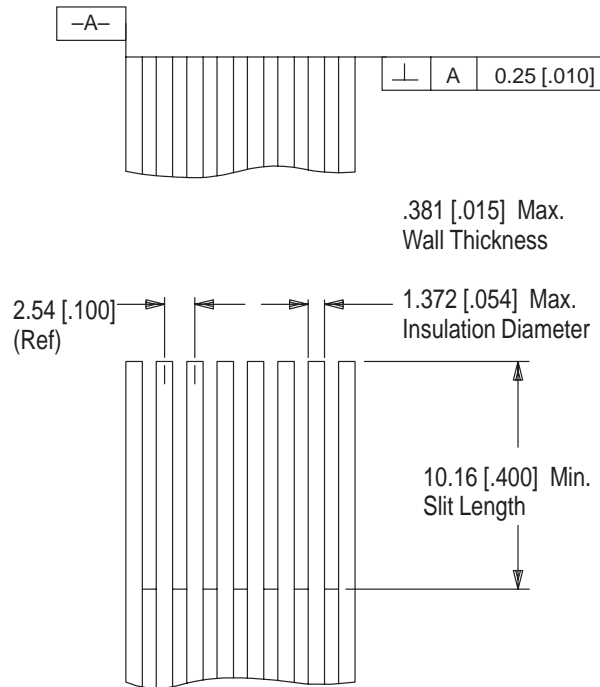

Figure 8
3. Obtain notched cable of the type to be used in a production operation. See Figure 8 for notching requirements.